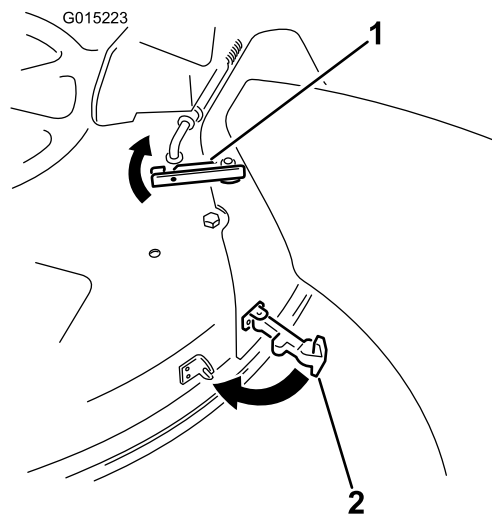

Figure 22
7. On the top of the chute, engage the upper latch around the pivot rod of the deflector assembly as shown in Figure 22.
8. Secure the chute to the mower deck by hooking the flexible latch on the chute to the retaining clasp welded on the mower deck (Figure 22).